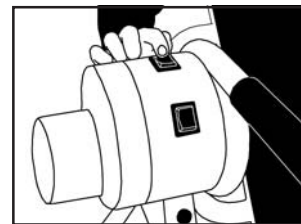

Figure 4
- TO INVERT, push the Rotation Control Button, the back button on the Motor Housing, in the direction of your head. Release the button to stop the rotation at any angle (See Figure 4). Benefits of inversion begin at approximately 20 degrees. Do not attempt full inversion if you are not comfortable.